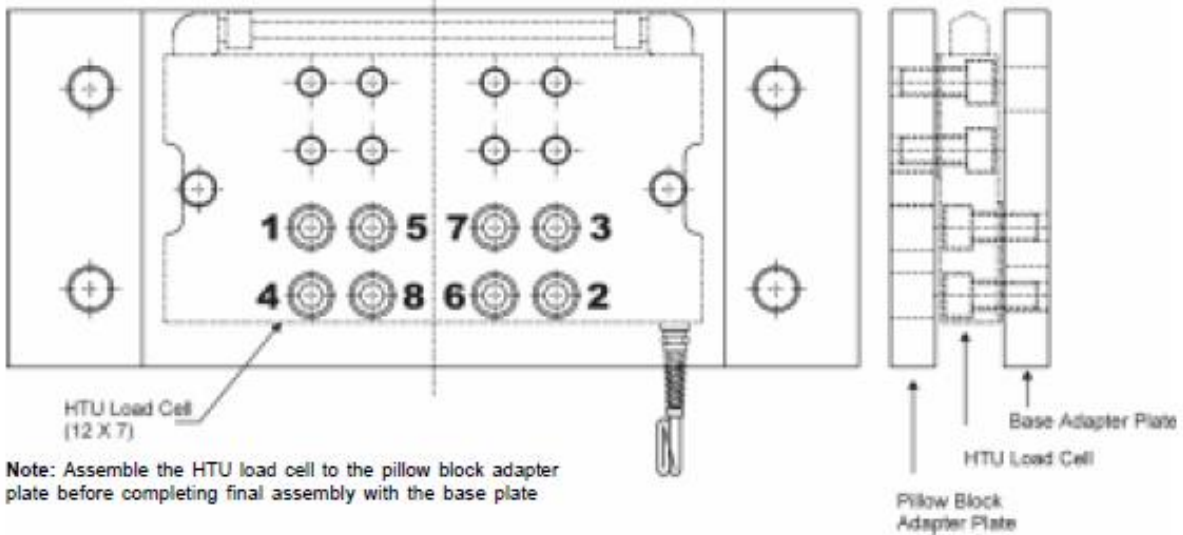

Figure 2-4. HTU to Base Plate Assembly
1. Place the base adapter plate on a clean smooth surface with the threaded holes forward (Figure 2-4).
4. Apply thread locker (BLH P/N 147379) to the remaining (8), 5/8-11UNC-2Ax11/2 inch socket head cap screws.
6. Using the numeric sequence shown in Figure 2-4, torque all bolts to one thousand (1000) inch pounds.
Attaching the HTU to the Frame: Drill and tap holes (5/8-11) in the frame/base according to the pattern shown in Figure 2-4. These holes must be directly in line with the counterbored holes on the HTU transducer (also see Figure 2-1 and 2-1a outline dimensions). Following steps 3 through 6 from the preceding paragraph, bolt the HTU transducer to the frame.